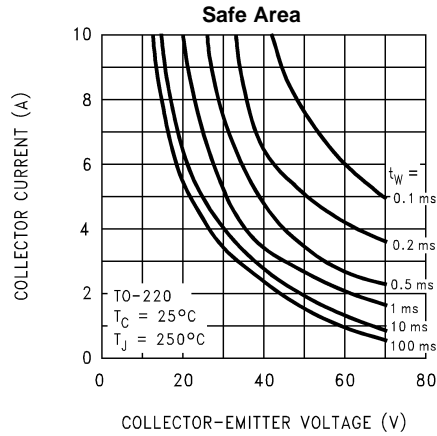

Figure 4.
- $I_8 \geq 0.5 \text{ mA}$ . (1)
**SPiKe Protection:** The LM3886 is protected from instantaneous peak-temperature stressing by the power transistor array. Figure 4 in Typical Performance Characteristics shows the area of device operation where the SPiKe Protection Circuitry is not enabled. The waveform to the right of the SOA graph exemplifies how the dynamic protection will cause waveform distortion when enabled.